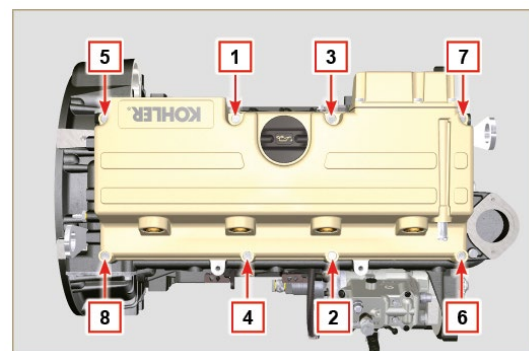

Fig. 9.67
1. Position tool **ST_17** onto the head in correspondence with the two fastening holes **5** and **6** (**Fig. 9.67**).
3. Fit the rocker arm cap **C** on the head **AL** via the screws **L** observing the clamping sequence illustrated in **Fig. 9.67**.